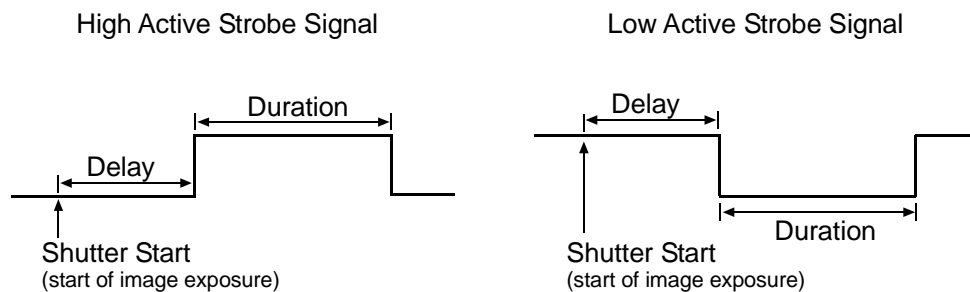

Figure 3-12: Strobe Signal
- Set the Delay\_Value field. The setting in this field will determine the time between the start of image exposure and when the strobe signal changes state as shown in Figure 3-12.
- Set the Duration\_Value field. The setting in this field will determine the duration of the strobe signal as shown in Figure 3-12.